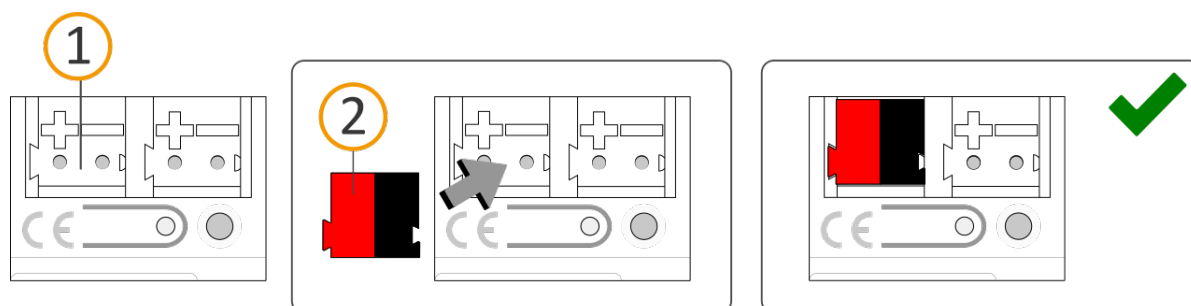

Figure 17: Connect the bus line
2. Connect the KNX/TP bus line (referred to below as the bus line) to the KNX connection of the device (see figure 17, Pos. 1) by means of the supplied bus connection terminal (see figure 17, Pos. 2). Polarity: left/red: "+", right/black: "-".
- a. Attach the bus connection terminal (see figure 17, item 2).